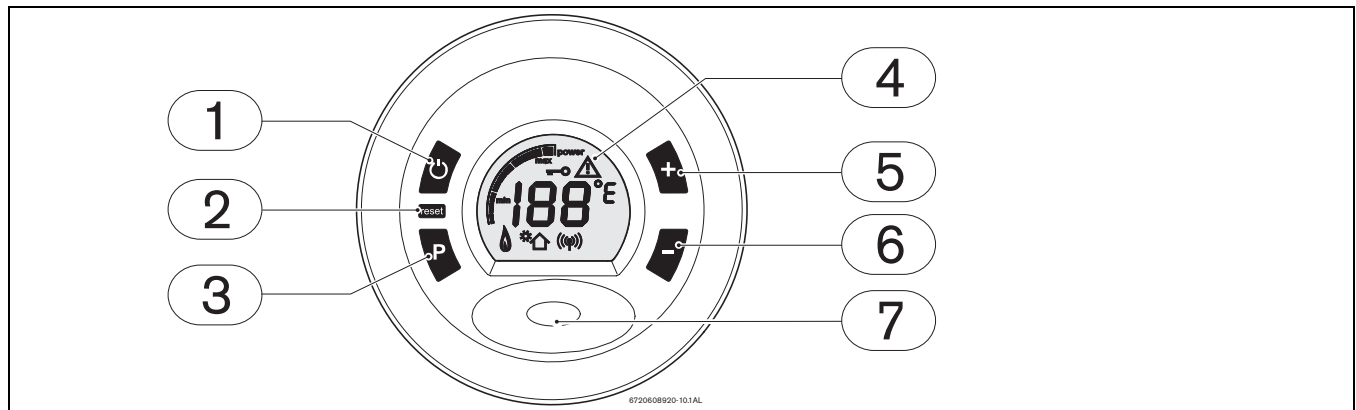

Fig. 8
Place the on-off switch (Fig. 8, pos. 1) in the operating position (chapter 5.3), so that the appliance is ready for use.
- ▶ Press the reset key (Fig. 8, pos. 2).
This appliance has an error code system. These codes are shown on the LCD display. (Fig. 8, pos. 4).